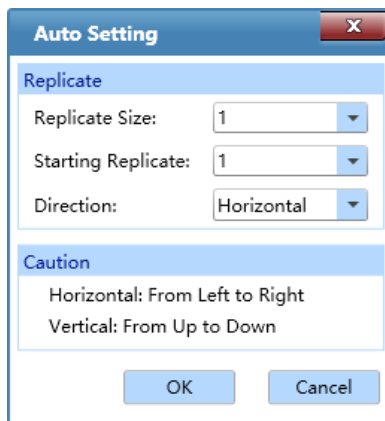

Figure E-7.2e Sample Setting Interface - Auto Setting
- c. **Auto Setting:** The application software can automatically divide multiple replicate groups according to user's requirements. Please first select all wells of the same samples in the sample setting area and click < **Auto Setting** >; then the auto setting dialog box will pop up, as shown in figure E-7.2e.